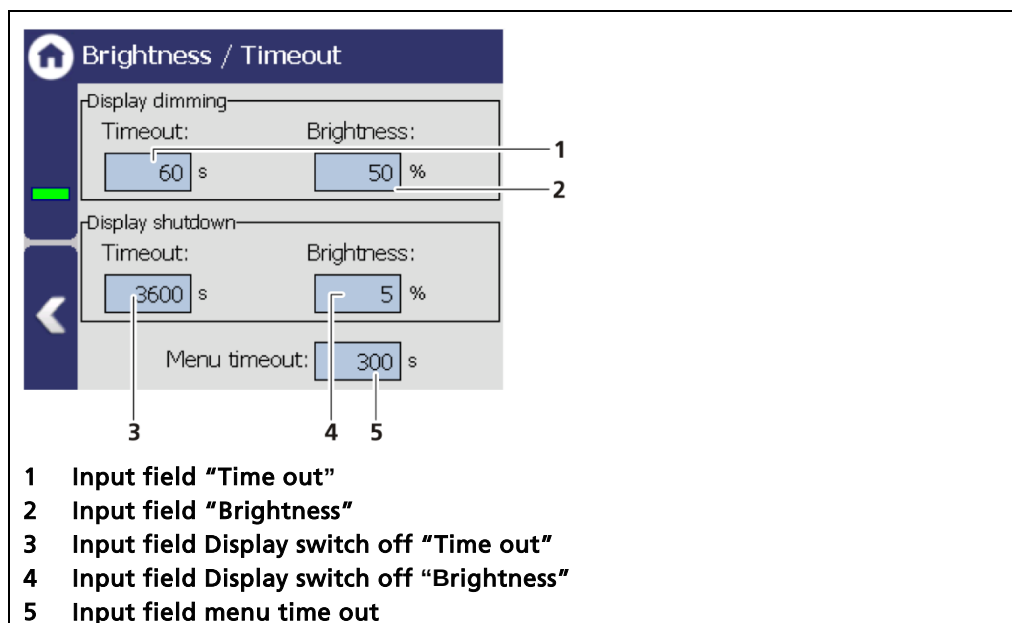

Fig. 45 Brightness / Time out settings
In the field Display dimming, clicking the input fields allows the entering of the brightness (Fig. 45, item 2) in percent, that is set after expiry of the time (Fig. 45, item 1).
In the field Display shutdown, clicking the input fields allows the entering of the brightness (Fig. 45, item 4) in percent, that is set after expiry of the time (Fig. 45, item 3).
Under "Menu Timeout" clicking on the input field (Fig. 45, item 5) changes the time period (seconds) in which the menu view changes to the standard view.